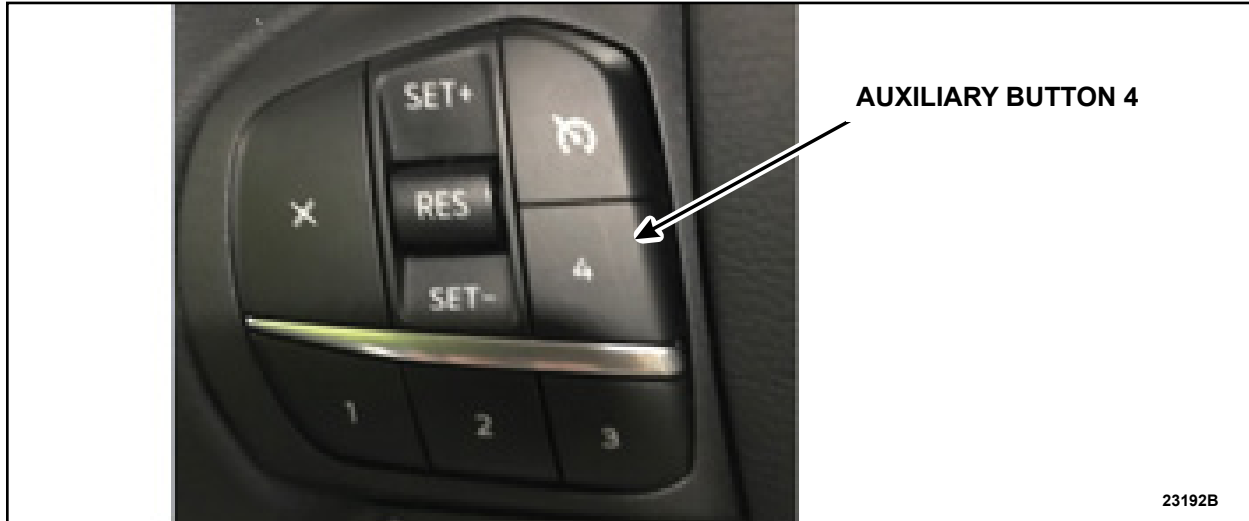
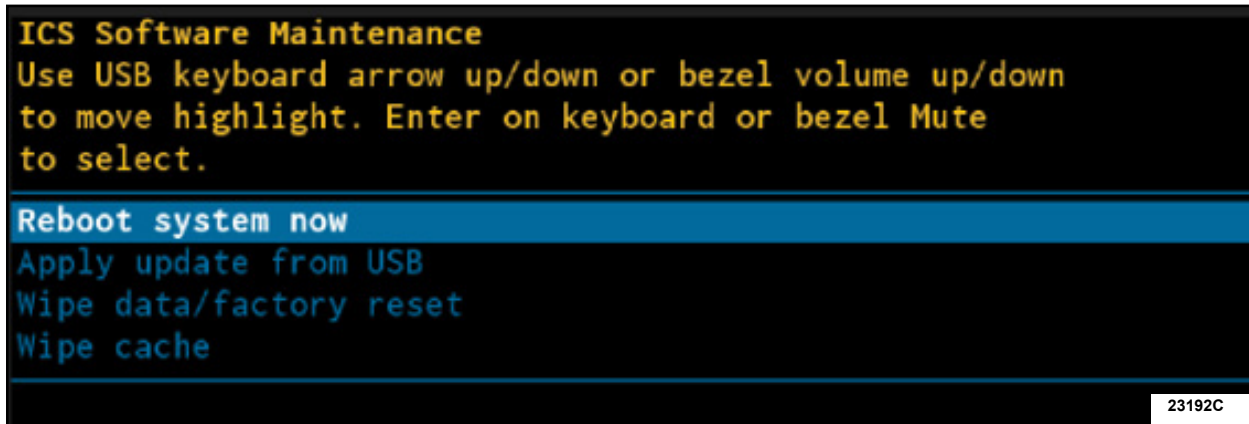

FIGURE 2
FIGURE 3
5. Quickly press and release and then press and hold the auxiliary button 4 for five seconds until the message **Shutting Down** is shown on the display screen. See Figure 2. The display screen will go black and then reboot in **ICS Software Management Mode**. See Figure 3.